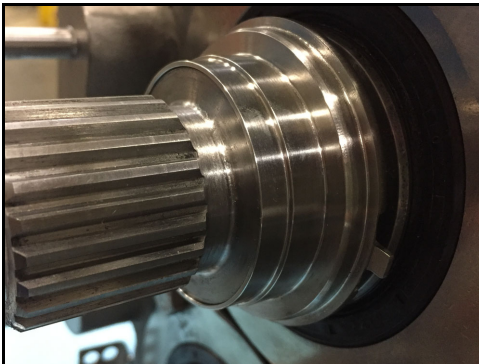

Figure 105 - Adjusting ring installed
25. Figure 105 shows the adjusting ring installed.